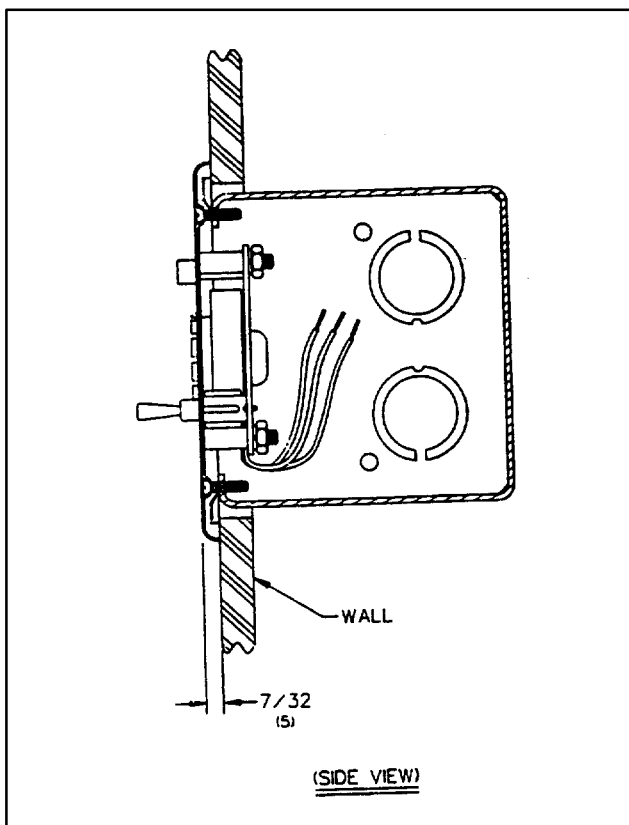

Figure 2. Electrical Box Mounting
2. Mount a suitable two-gang electrical box (not supplied) in location selected for each A/V alarm. A/V alarm panel requires a minimum mounting depth of 3/4 in. (19 mm). Be sure to include sufficient room for wiring. The electrical box(es) should be mounted flush with the surrounding wall surface where possible. See Figure 2.